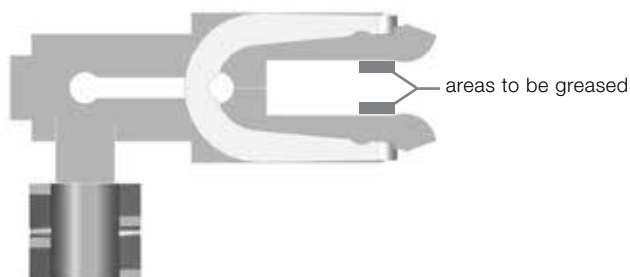

Fig. 55 Power contacts for size 8E/4 and 8E/2 withdrawable modules as well as the outgoing power contacts of 4E-withdrawable modules
- See figures 55 and 56 for the contact areas to be greased.